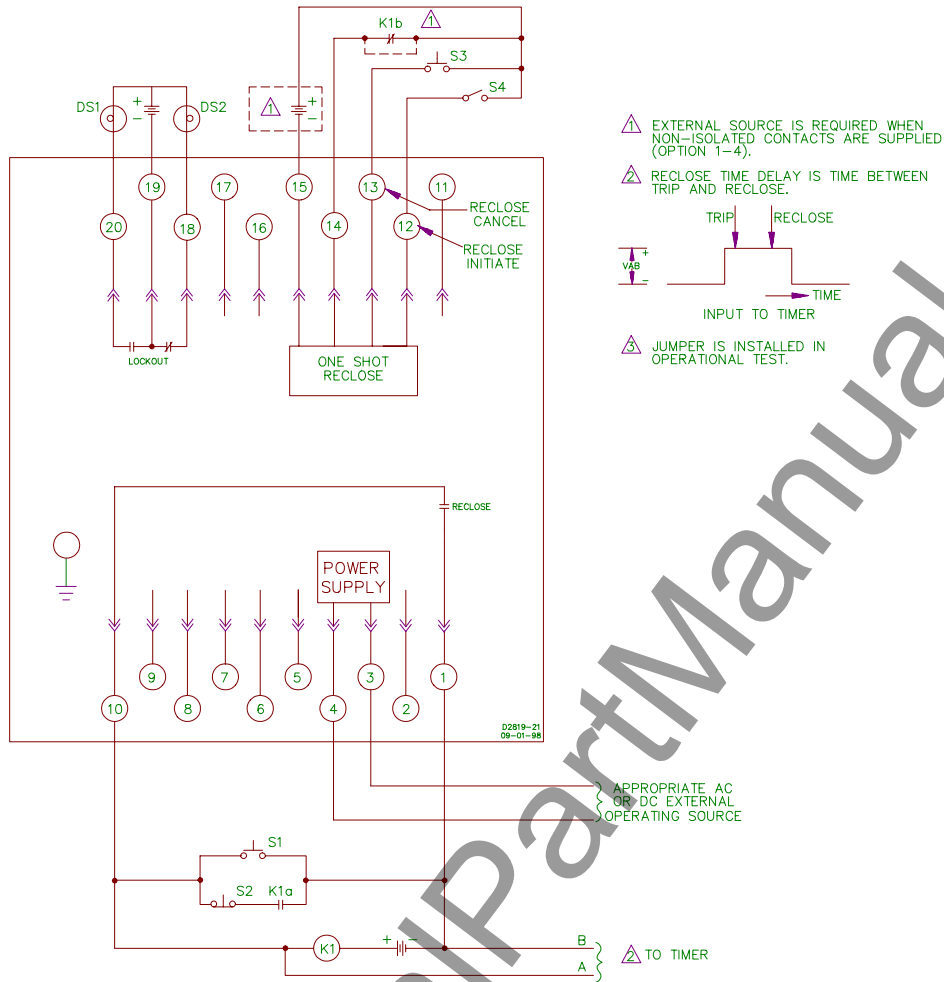

Figure 5-1. Test Setup Diagram (Typical)
Step 1. Connect the relay as shown in Figures 5-1 and 5-2. If equipped with Power Supply Status Output (Option 2-F), and with the unit in a powered-up condition, verify that the power supply status output contact is energized open (terminals 11 and 16). Remove input power and verify that the status output contact closes. Restore input power.
Step 23. (Refer to note and Table 5-1, above) With the relay connected as shown in Figure 5-1, indicators DS1 and DS2 are slaved to the LOCKOUT LED. When the LED is lit, DS1 is on and DS2 is off and vice versa.
Input to timer in STEP 43 is reverse of that shown in Figure 5-1. Voltage goes low on trip and returns to high when reclose signal terminates.
Step 6. Connect the relay as shown in Figures 5-1 and 5-2.